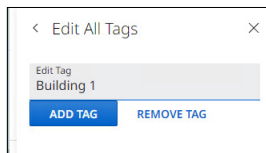

Figure 28. Edit All Tags — ADD TAG
4. Enter the tag name in the Edit Tag text box (see figure 28).
2. Enter the tag name in the Edit Tag text box (see figure 28).